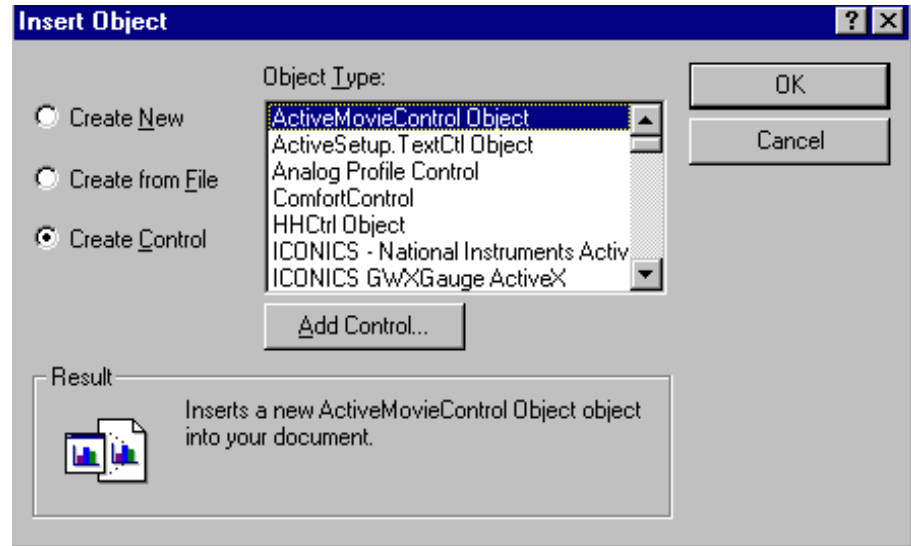

Figure 5-3: Insert Object Dialog Box
1. On the Edit menu, select Insert New Object. The Insert Object dialog box appears (Figure 5-3).